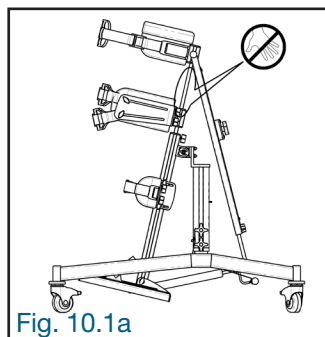

Fig. 10.1a
- When adjusting the height of the product by loosening the two locking knobs (A) at the back of the frame and the two locking knobs (B) at the bottom of the stabilizer platform, DO NOT place fingers or hands between the hip block (C) and the thoracic block (D) (Fig. 10.1a). Always hold the thoracic block (D) with one hand to prevent it from sliding down and trapping fingers and hand between the thoracic (D) and hip blocks (C).